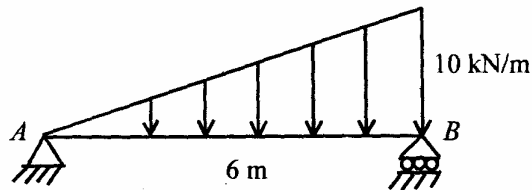

Fig. 1
1. Find the forces in the truss members shown in Fig.1. 20
2. Find the deflection of the simply-supported beam as shown in Fig. 1 by any method. Also, find the maximum deflection. Given : $E = 2 \times 10^5 \text{ N/mm}^2$, $I = 15 \times 10^5 \text{ m}^4$. 20